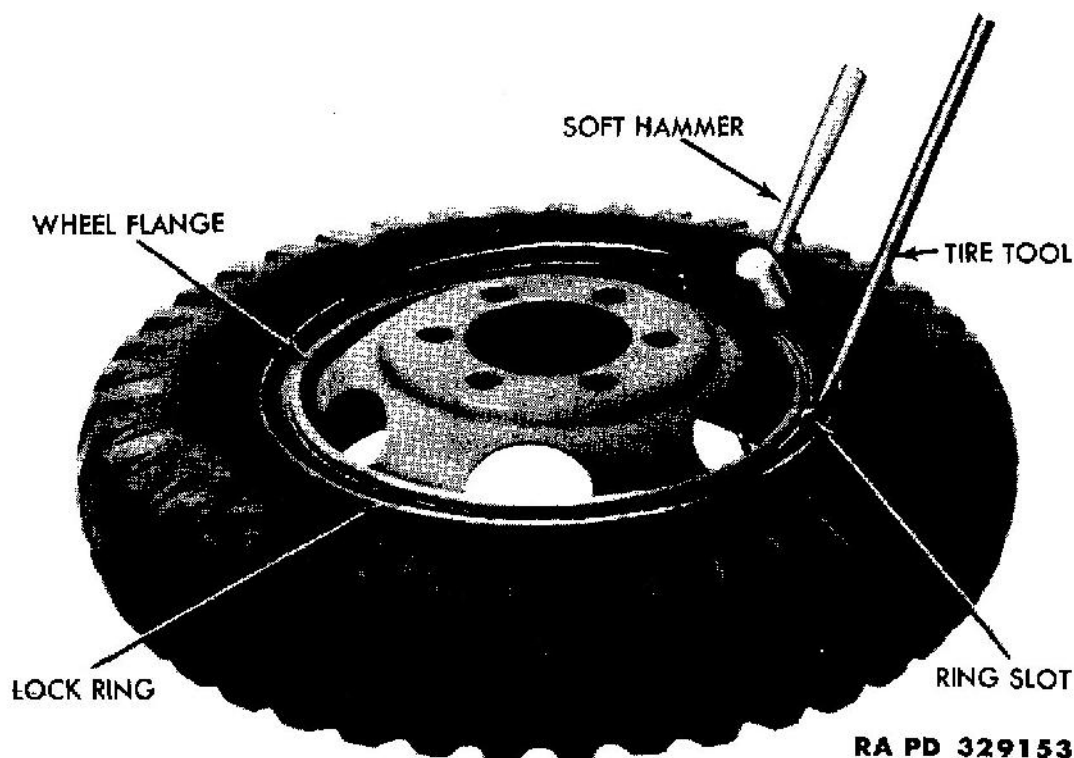

Figure 70 – Installing Tire Lock Ring
b. **Installation.** Place the inner tube in the tire casing so that the red spot on the tire casing will be 180 degrees or directly across the wheel from the valve stem. Apply the tire and tube to the wheel and place the lock ring in position on the wheel flange. Press down on the side of the lock ring directly across the wheel from the lock ring slot. Pry on the lock ring and at the same time strike the lock ring with a soft hammer, as shown in figure 70, until the ring is forced over the wheel flange. Make certain that the lock ring has passed completely over the outside diameter of the wheel flange and into the groove of the flange before inflating the tire. Inflate the tire, a little at a time, until the lock ring is securely seated against the flange of the wheel. When the lock ring is securely seated, inflate the tire to 55 pounds. **CAUTION:** *When inflating the tire, do not stand in front of the lock ring.*